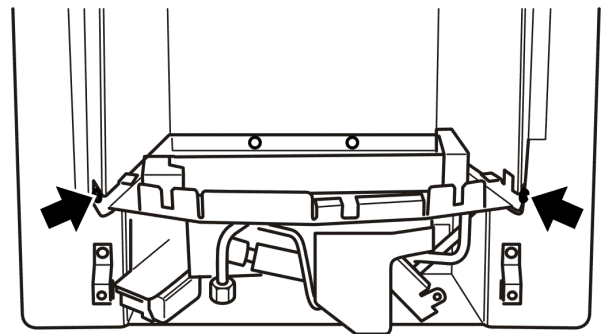

Figure 45. Burner attachment points
4. Detach the burner unit from the convection box by removing two screws (See figure 45).